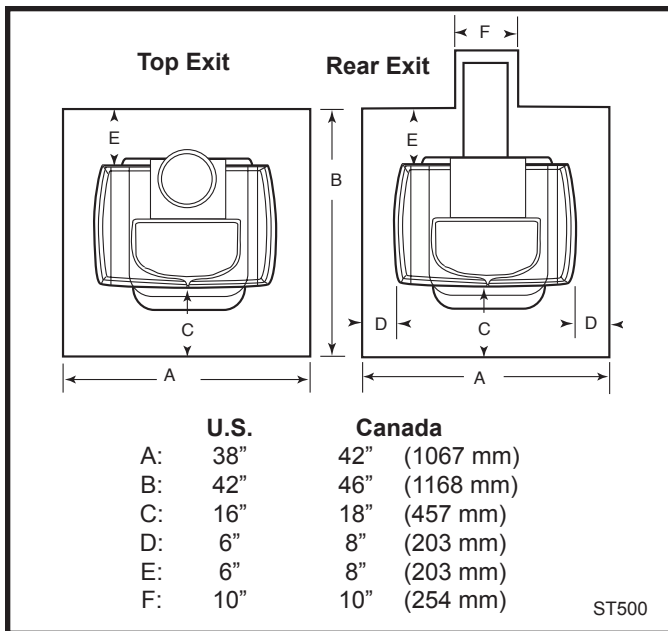

Fig. 11 Required floor protector dimensions.
**U.S. installations** the floor protector is required under the stove and must extend at least 16" from the front of the stove ("C", Fig. 11), and at least 6" from the sides and rear ("D" and "E", Fig. 11). It must also extend under the chimney connector and 2" to either side ("F", Fig. 11).
**In Canada,** a noncombustible floor protector is required under the heater also. The floor protector must extend 18" (457 mm) to the front ("C", Fig. 11), and 8" (203 mm) from the sides and rear ("D" and "E", Fig. 11).